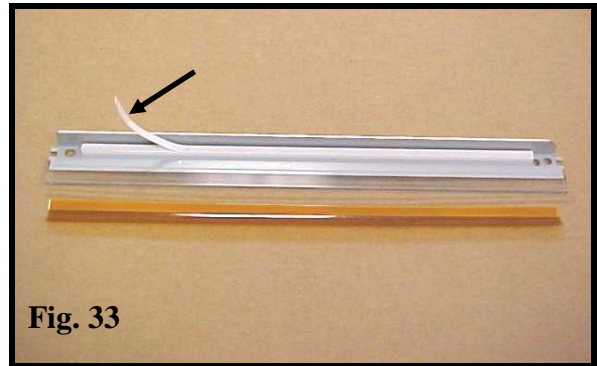

Fig. 33
33. To install an Oasis replacement wiper blade, screw the wiper blade onto the waste section, peel the white colored backing off of the adhesive strip that runs the length of the wiper blade (Fig. 33). Stick the orange colored Mylar blade onto the wiper blade adhesive strip. The Mylar blade will cover the two wiper blade end screws.